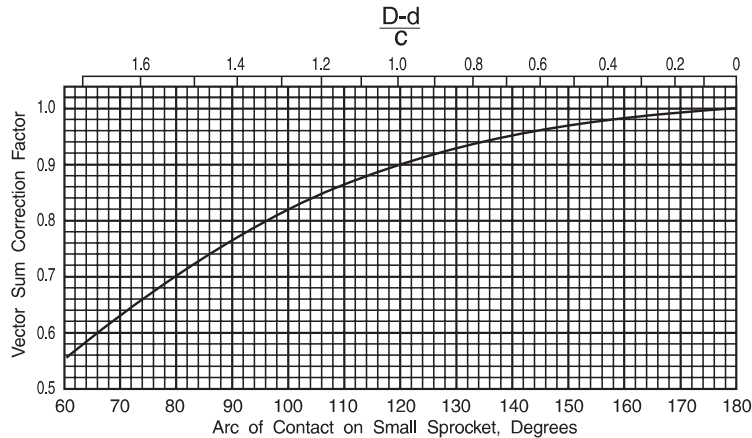

Figure 12 - Vector Sum Correction Factor
2. Using the value of $(D-d)/C$ for the drive, find the vector sum correction factor using Fig. 12. Or, use the known arc of contact on the small sprocket where: